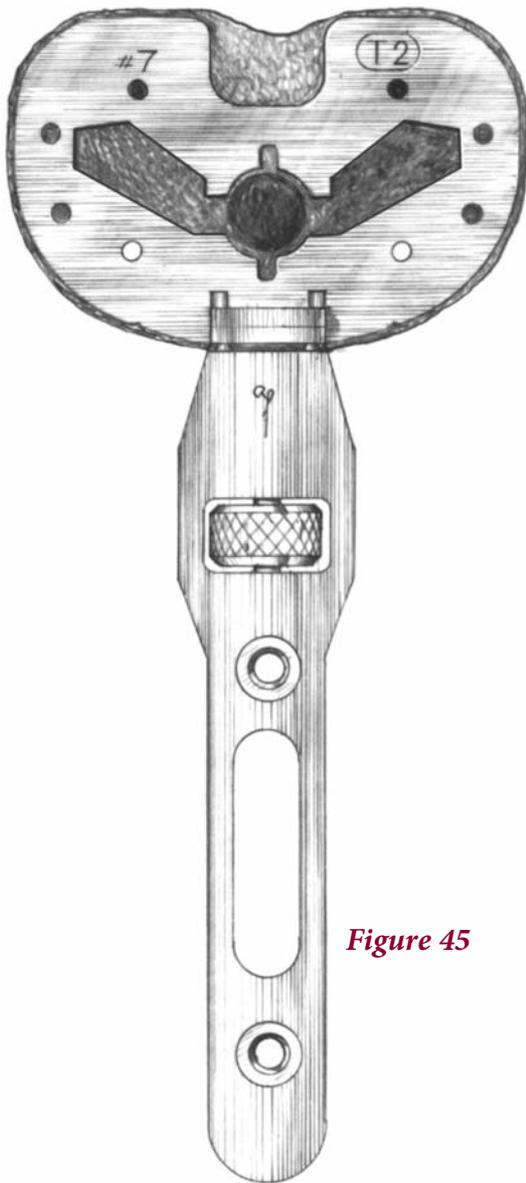

Figure 45
- ▶ Assemble a Tibial Trial Baseplate to the Alignment Handle and place it on the resected tibial plateau (**Figure 45**). Choose the size that best covers the tibial plateau.